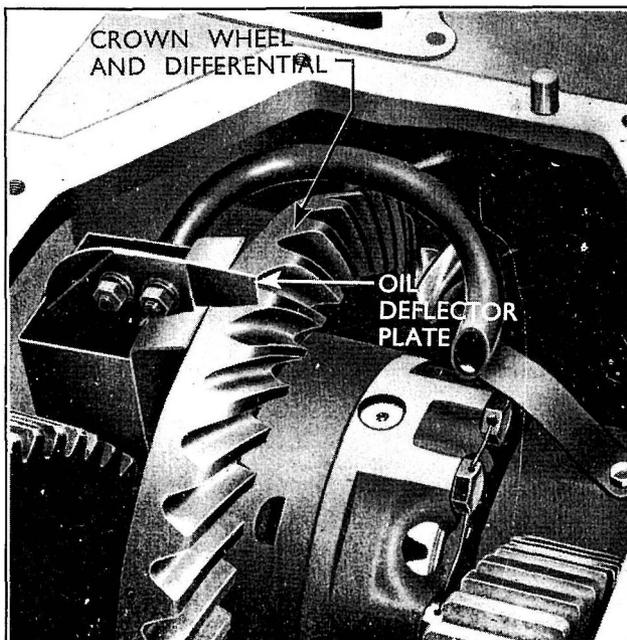

Fig. 169
- 7 Refit the oil deflector assembly to the bull pinion housing and secure with three bolts and spring washers. Check for 0.004 in. clearance between the oil deflector plate and the periphery of the crown wheel, adjust, if necessary, by moving the plate in the elongated holes (see Fig. 169).